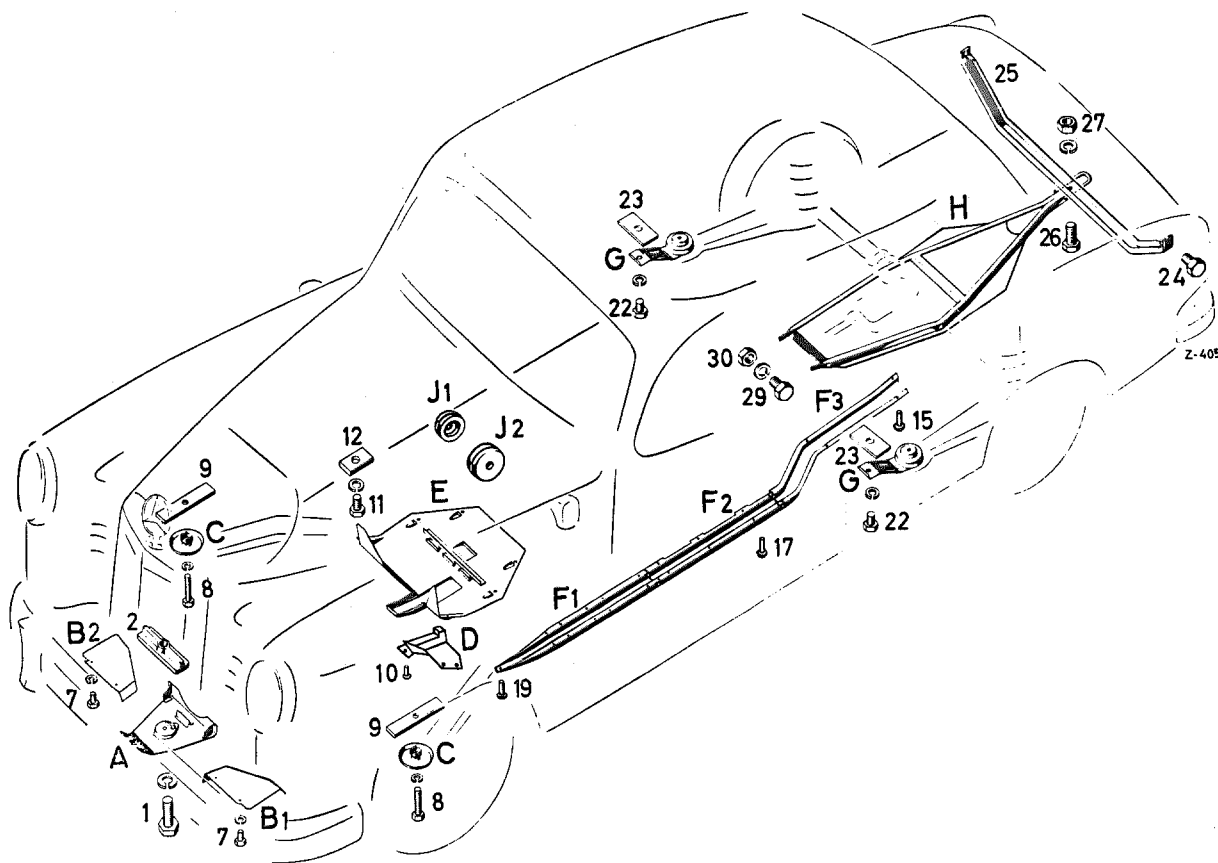

Fig. 52 — 1/1
1. Hold the protective plate (A) against the front axle support and check for fitting; if necessary, adjust (see Fig. 52 — 1/2).
**Note:** Recently, an extended protective plate, Part No. 121 330 03 83, has been brought into use. This plate affords protection over the whole length of the oil pan. This protective plate is shown in broken lines in Fig. 52 — 1/2.
2. Insert the hexagon screw (1) M 10 × 25 with lock washer in the bore of the protective plate (A) from underneath (see Fig. 52 — 1/1) and screw the fixing plate (2) from the other side, about 3 turns onto the hexagon screw (1).